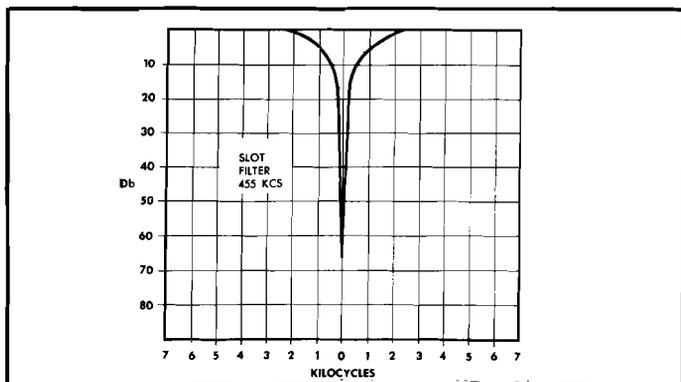

Figure 7. Slot Filter Response Curve
*** The Slot Frequency control provides an extremely sharp adjustable slot or hole in the selectivity curve (See Figure 7). It is normally located outside of the passband of the 455 Kcs IF Amplifier system. It is brought into the passband for the purpose of eliminating interference from heterodyne signals on AM and monkey
a very high impedance to signals passing through at the resonant frequency (See Figure 7). Resistive balance is controlled by the Slot Depth Potentiometer R21.